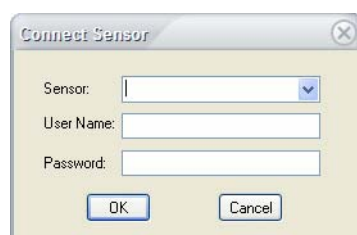

Figure 4-22: Connect Sensor screen
- 1) Click **Connect> Sensor....** The Connect Sensor dialog box appears. See Figure 4-22